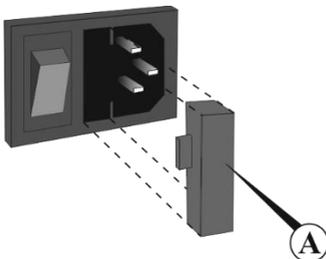

Figure 6. Fuse holder
- 7.4. **Fuse replacement.** Disconnect from electric circuit. Remove the power plug from the rear of the unit. Pull out the fuse holder by applying leverage in recess (fig. 6/A). Remove the fuse from the holder. Check and replace with the correct fuse if necessary. Consult with the table 5 below (type **M** - time lag: **Medium**):